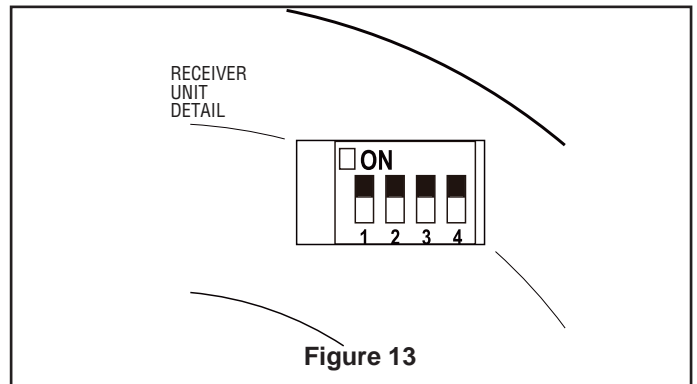

Figure 13
- 2. To set the receiver unit code, slide code switches to the same positions as set on your transmitter (Figure 13).